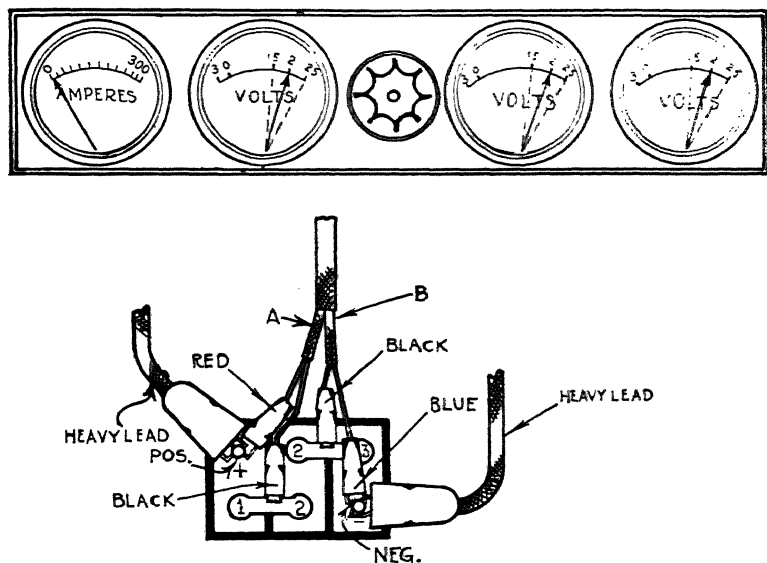

Fig. 7. (Above) Ammeter and Individual Cell Voltmeter Readings
**Open Voltage Test.** Use cable, Fig. 7, with two pairs of wires enclosed in single rubber cover which are connected to back of panel to the three voltmeters. With pair shown at A, connect the lead